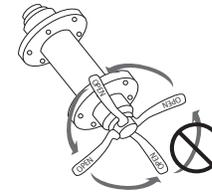

fig. 5
**DO NOT TIGHTEN THE QUICK RELEASE MECHANISM BY USING THE QUICK RELEASE LEVER LIKE A WING NUT [FIG 5]. DO NOT OVERTIGHTEN THE QUICK RELEASE MECHANISM, WHICH MAY DAMAGE THE QUICK RELEASE ASSEMBLY.**
- b. With the quick release lever properly adjusted and closed, it will not be possible to rotate the quick release lever in a circular motion parallel to the wheel as pictured in figure 5.